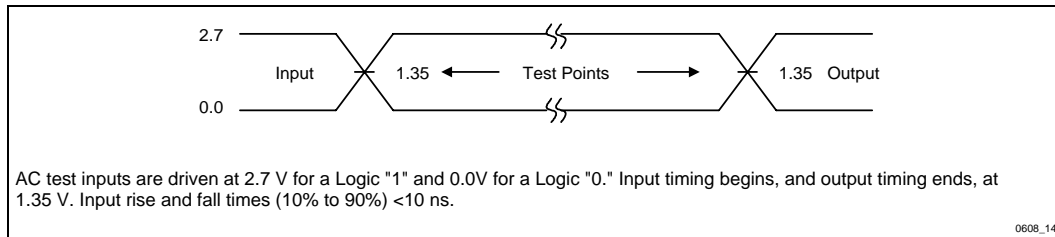

Figure 14. Transient Input/Output Reference Waveform for $V_{CC} = 2.7\text{ V}-3.6\text{ V}$
5. See Figures 14 through 16 for testing characteristics.
6. See Figures 14 through 16 for testing characteristics.